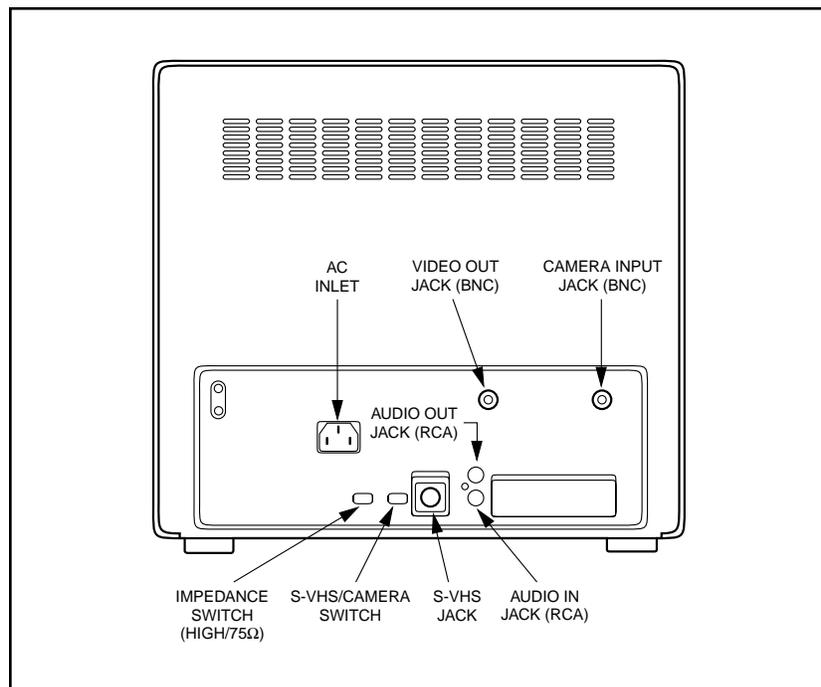

Figure 1. Rear Panel Connections
Refer to Figure 1 for rear panel connections.
4. Plug the appropriate power cord into the AC INLET connection on the rear panel of the monitor (refer to Figure 1). Plug the other end into a power receptacle.